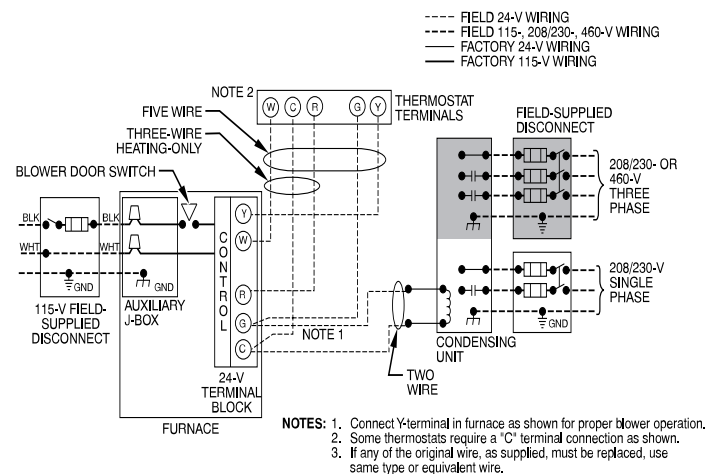

Fig. 23 – Heating and Cooling Application Wiring Diagram with 1-Stage Thermostat A180241
See Fig. 23 for field wiring diagram showing typical field 115-V wiring. Check all factory and field electrical connections for tightness.
12. Complete electrical box wiring and installation. Connect line voltage leads as shown in Fig. 23. Use best practices (NEC in U.S. for wire bushings, strain relief, etc.)
5. Connect line voltage leads as shown in Fig. 23.
Make field 24-V connections at the 24-V terminal strip, see Fig. 23. Connect terminal Y as shown in Fig. 36 for proper cooling operation. Use only AWG No. 18, color-coded, copper thermostat wire.